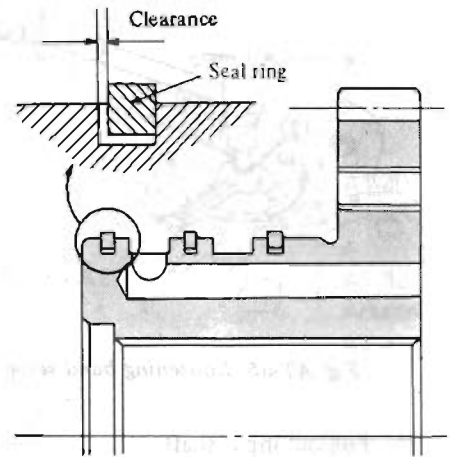

Fig. AT-68 Measuring seal ring to ring groove clearance
2. Check that clearance between seal ring and ring groove is correct. If out of specification, replace whichever is worn beyond limits. Correct clearance is from 0.04 to 0.16 mm (0.0016 to 0.0063 in). See Figure AT-68.